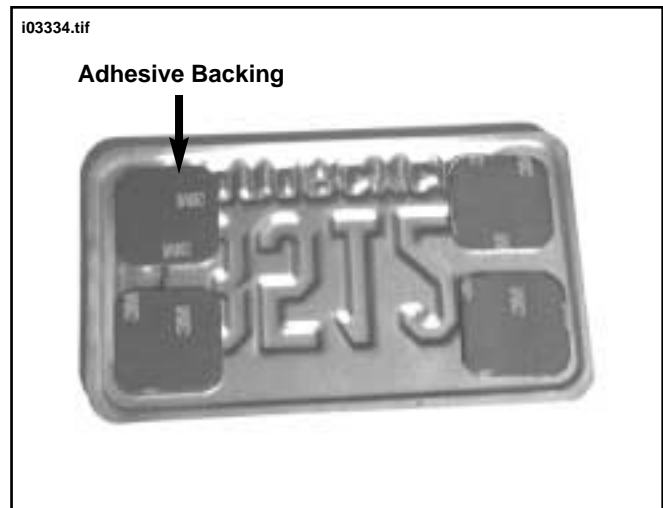

Figure 4. Peel Off Adhesive Backing from Stud Plates
15. See Figure 4. Peel adhesive backing from each of the four stud plates. Carefully position the license plate with stud plates attached to license plate mount and press firmly into place.